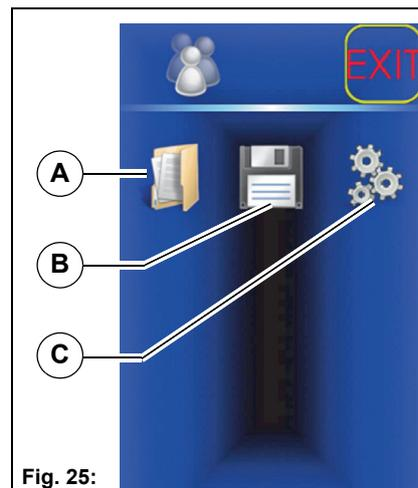

Fig. 25:
**Driving profiles menu Fig. 25**